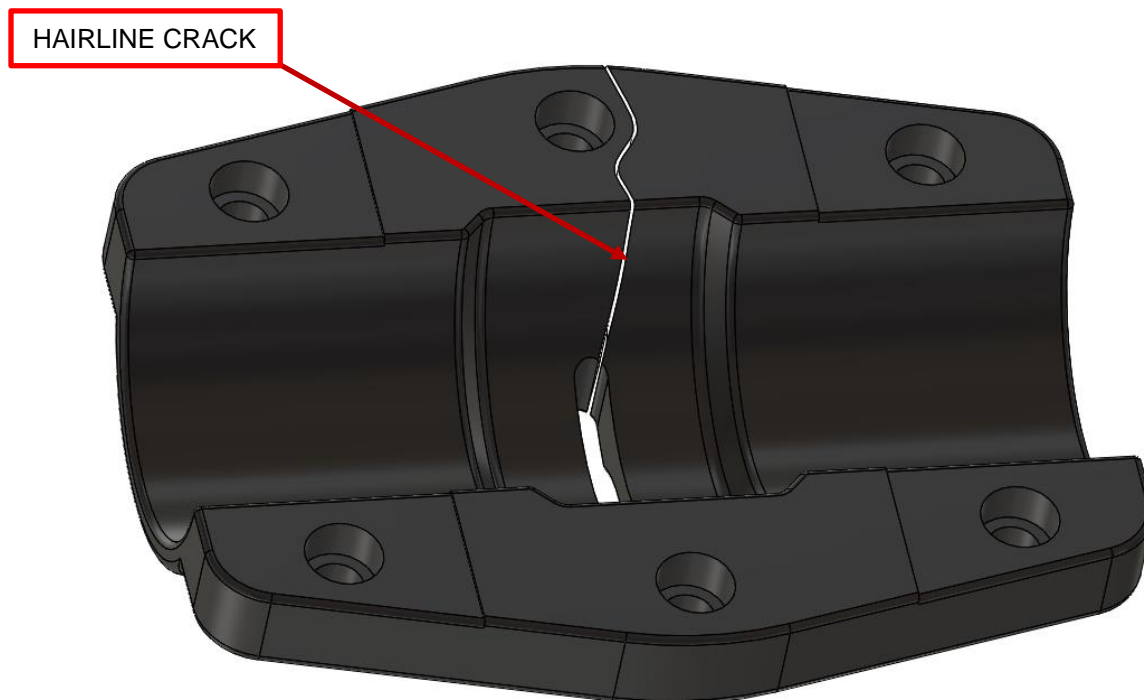

Figure 1. Cracks start near pitch marks and grow outwards.
- The hub cracks typically start at or near the pitch cartridge slot on the sides of the central hole, and grow outwards towards the hub sides. They are hairline cracks which are very difficult to see with the naked eye. Refer to Figures 1 & 2 for crack location.